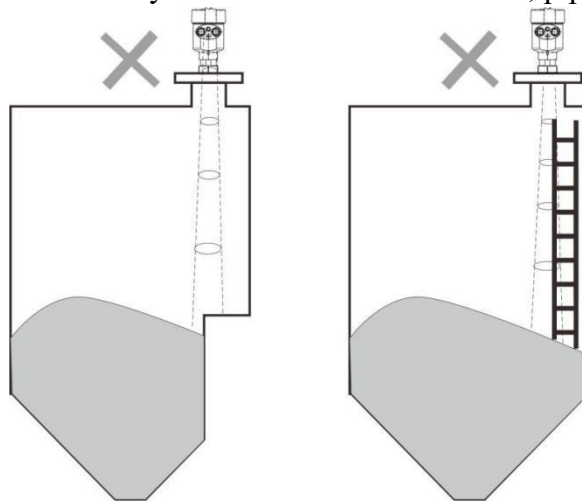

Fig.1 Example for avoiding false echo
- Keep the antenna beam free of any interference such as ladders, pipes, steps, as shown in Fig.1.